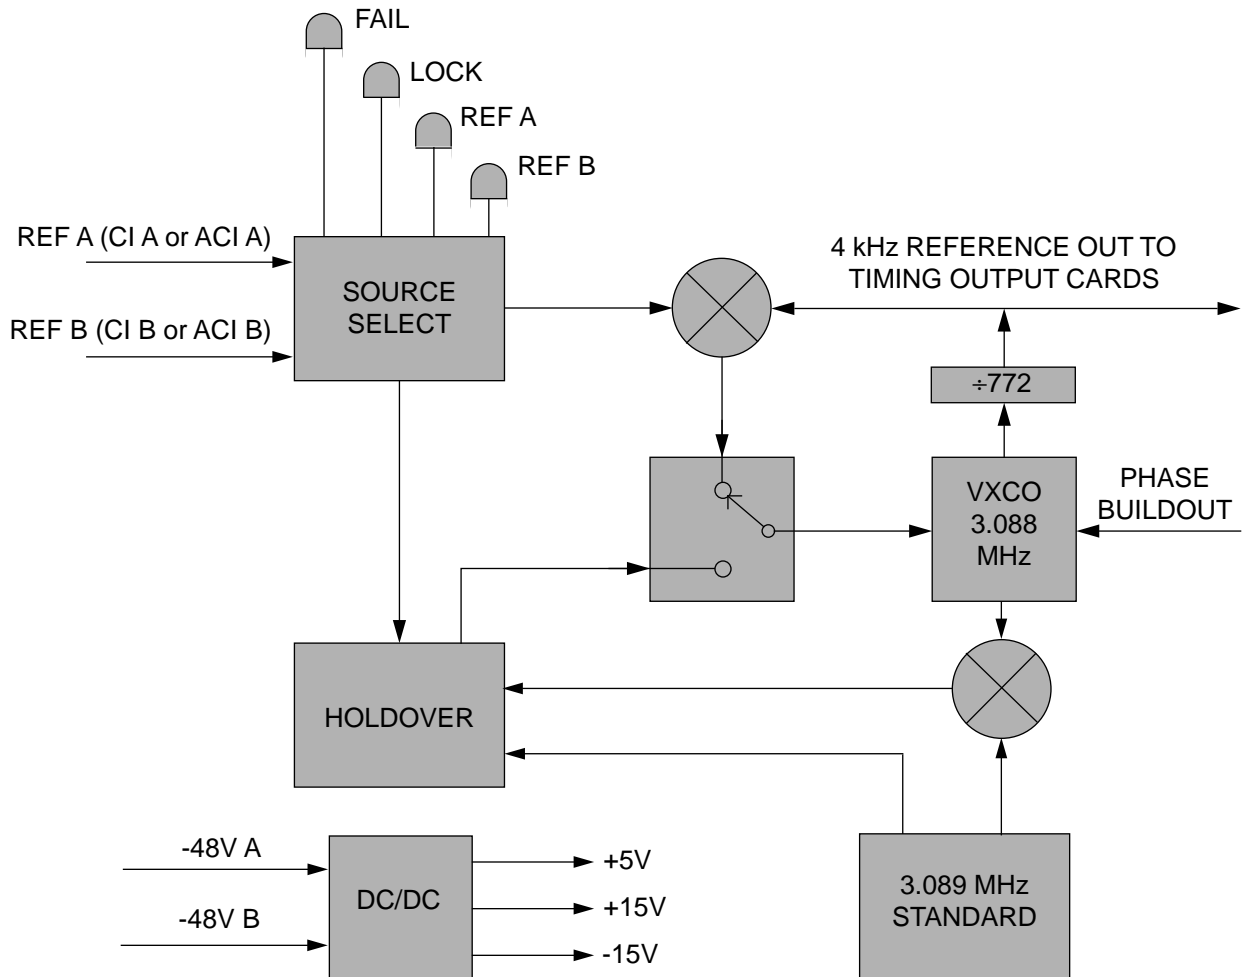

Figure 14. ST3 Card Block Diagram
4.56 Figure 14 is a block diagram of a Timing Output Composite Clock (CC) Automatic card (TOCA). The card provides 10 composite clock timing outputs.